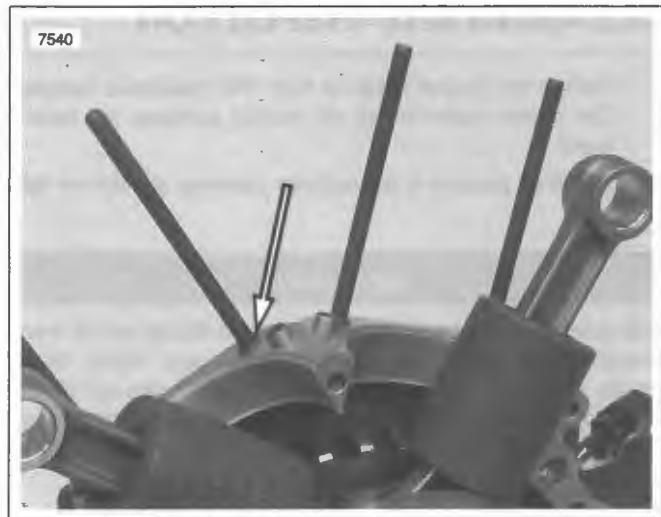

Figure 3-148. Collar Side Down
2. See Figure 3-148. Start the stud in the cylinder deck with the collar side down. Tighten using air gun until collar reaches crankcase.